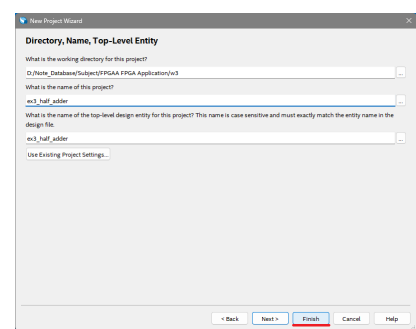

Figure 3: Select new project details
3. Select project working directory, named project name, click "Finish". (Figure 3)